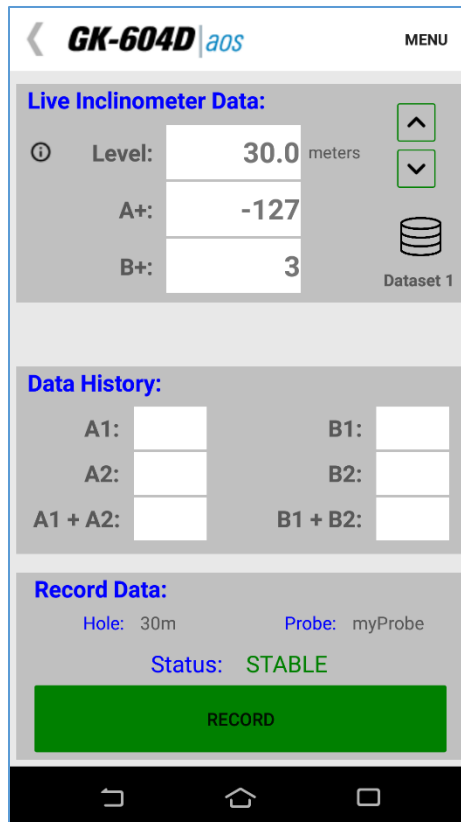

Figure 17 - Live Readings Screen
b. The Live Readings Screen will be displayed (Figure 17).